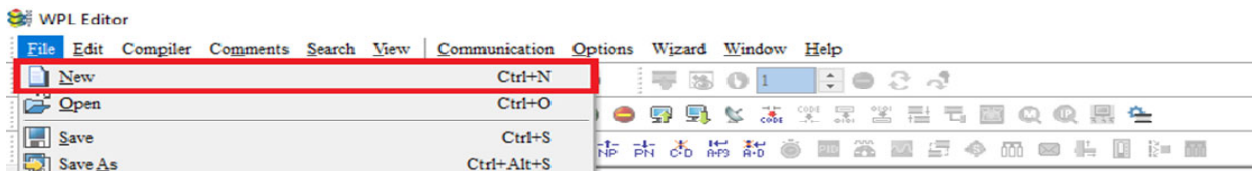

Figure 16-5
NOTE: You can also find “New file (N) (Ctrl+N)” in the "File (F)", as shown in figure 16-5 below.